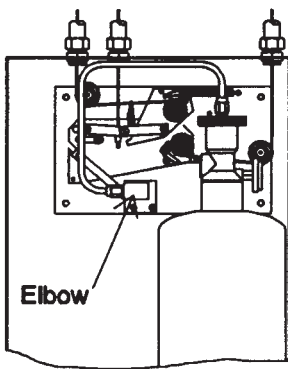

Figure 4-28. Single Cylinder Installation with Model EN-MCU3 Mechanical Control Unit.
- ▶ In order to actuate the agent cylinder from the Model EN-MCU3's control mechanism, pneumatic tubing must be used to connect the actuator to the valve cap assembly of the agent cylinder valve. A 1/4" NPT x 1/4", 45° flare type elbow is included and must be installed in the actuator of the Model EN-MCU3 Enclosure. See **Figure 4-28.**